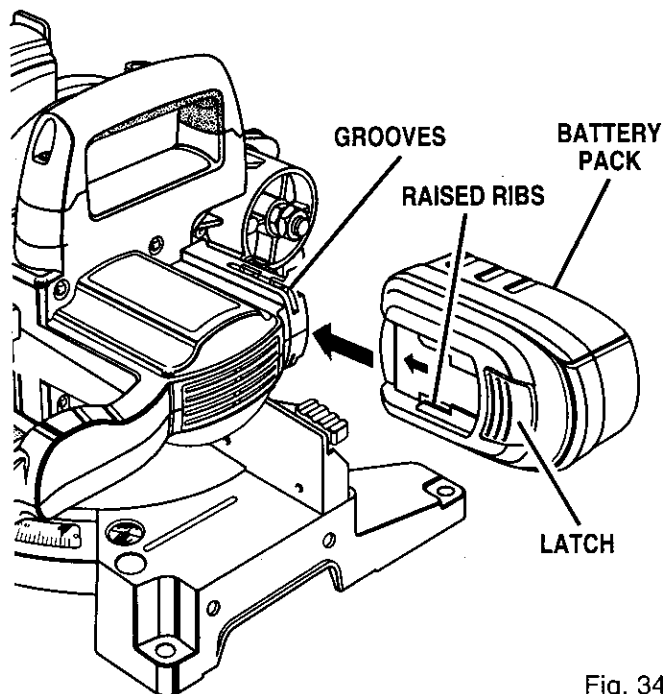

Fig. 34
See Figure 34.
- Align raised ribs on battery pack with grooves on bottom of saw, then attach battery pack to saw as shown in figure 34.